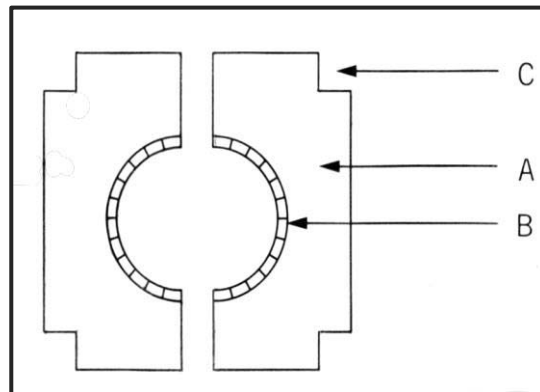

FIGURE 5.2
5.2 FIGURE 5.2 below shows the top view of the yokes and laggings for a round column. Study the picture and answer the questions that follow.